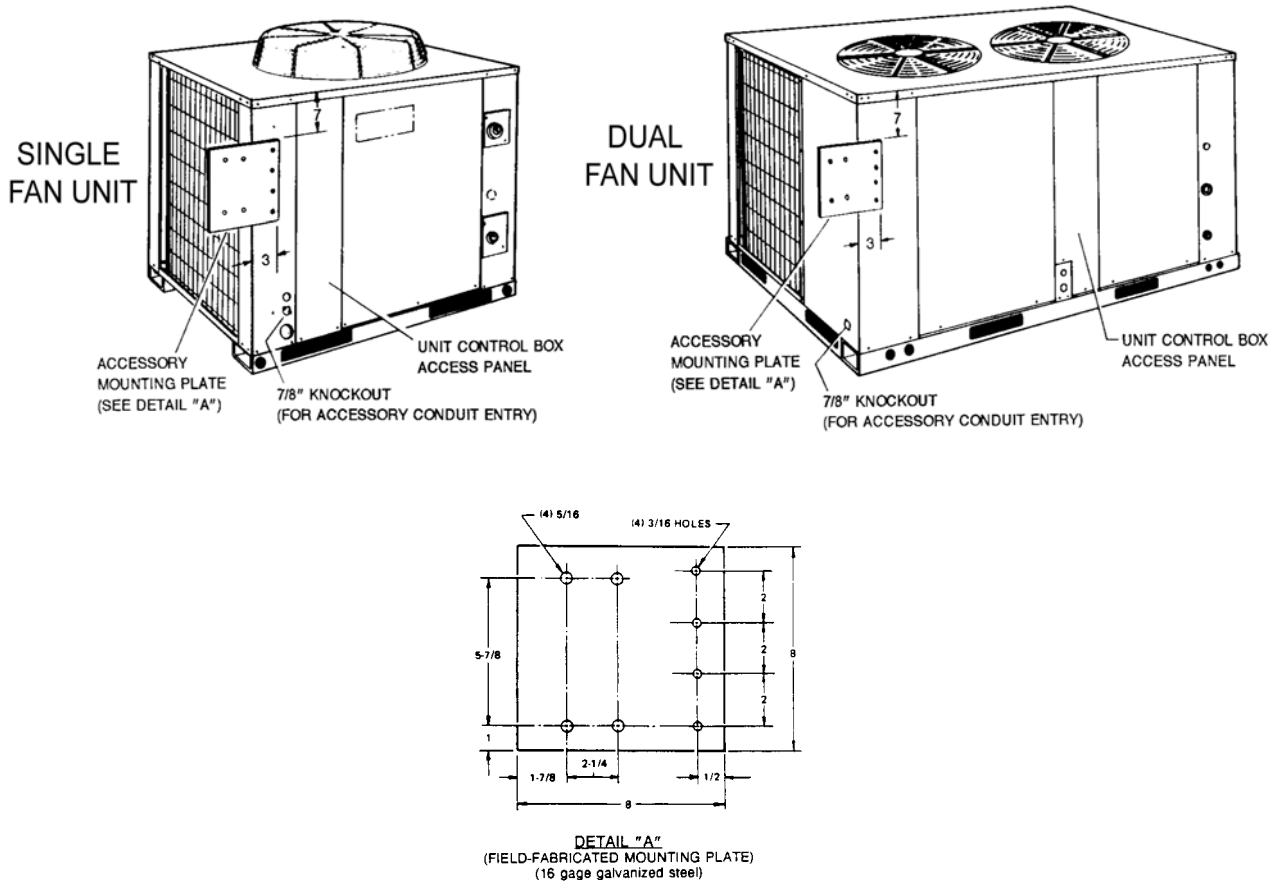

FIGURE 1 - ACCESSORY MOUNTING PLATE LOCATION
3. Field-fabricate a 16 gauge (8" X 8") galvanized steel plate for mounting the accessory electrical box. Refer to Figure 1 for the required hole sizes, hole locations and location of the plate for mounting to the unit.
6. Remove the 1/2" and 3/4" knockout from the bottom of the accessory electrical box and the 7/8" knockout from the unit (location shown in Figure 1).